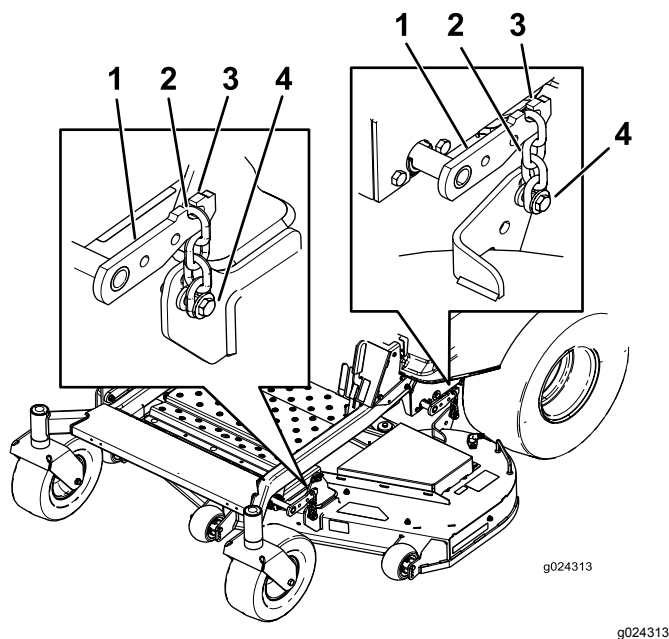

Figure 73
5. Loosen the adjustment bolts on all four corners so that the deck is sitting securely on all four blocks (Figure 73).
6. Ensure there is tension on all four chains(Figure 73).
7. Tighten the four adjustment bolts(Figure 73).